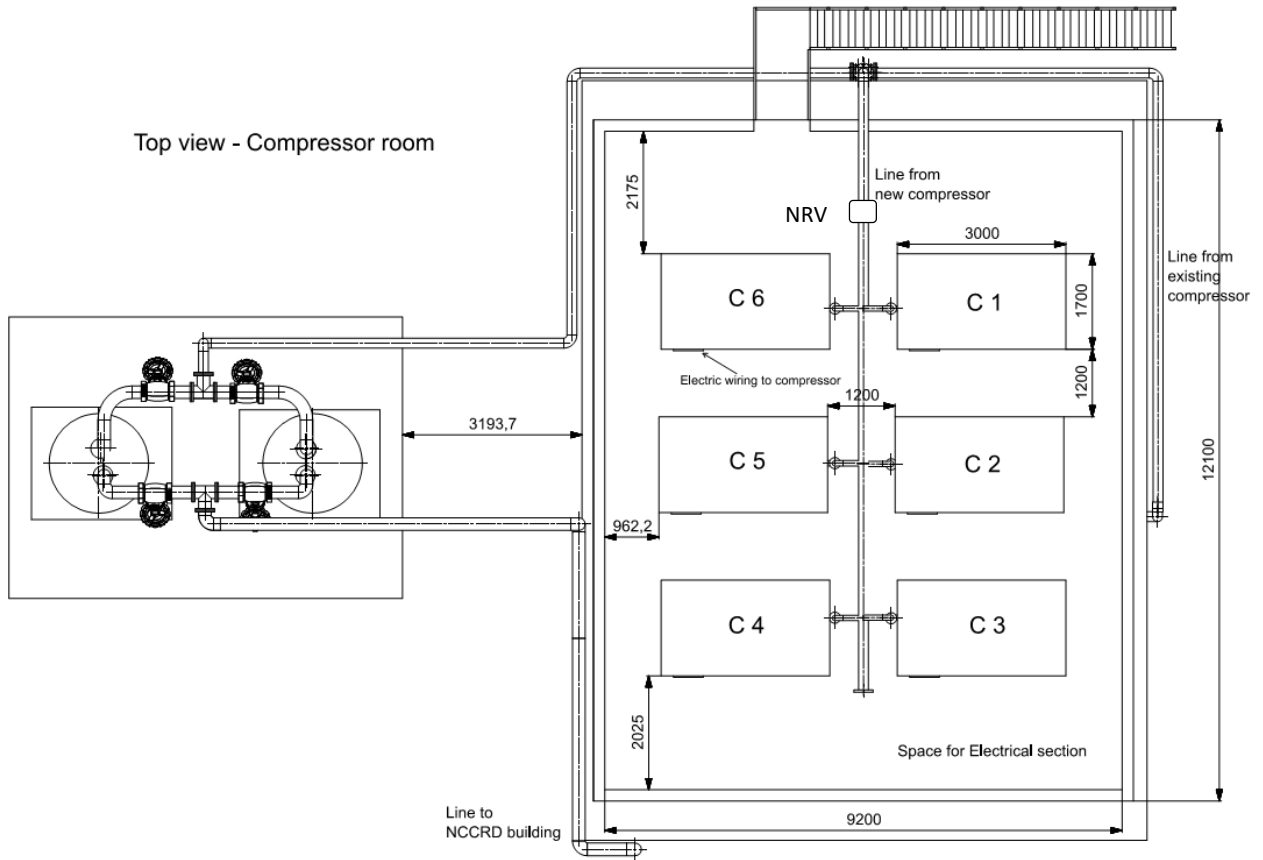

Fig. 3 Top view of the proposed new compressor facility.
The new 6 compressors need to be interconnected and a single line need to be taken to the receiver. Layout of the same is given in Figures 3. The six compressors are interconnected using 3" pipes and the main line is 6" size. Operating pressure is 12 bar and maximum flow rate is 2.1 Kg/s. A rupture disc, ball valves (BV) and non-return valves (NRV) need to be installed in this line to protect the 12 bar compressors during the 40 bar compressor line operation. Similarly, the existing compressor line also need to be modified. The existing gate valves (2 inlet and outlet) need to be converted to lotto lockable gate valve. The valve positioning and specs should be arranged as per the pre-bid meeting. An approximate bill of materials are listed in Table 2.